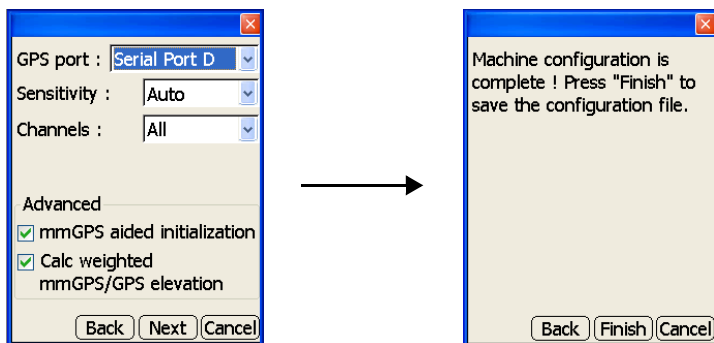

Figure 2-52. Select mmGPS Parameters
8. Select the following mmGPS parameters and press **Next** to continue (Figure 2-52 on page 2-36):
9. Press **Finish** to save the configuration file (Figure 2-52). Pressing Cancel will cause the configuration's information to be lost.